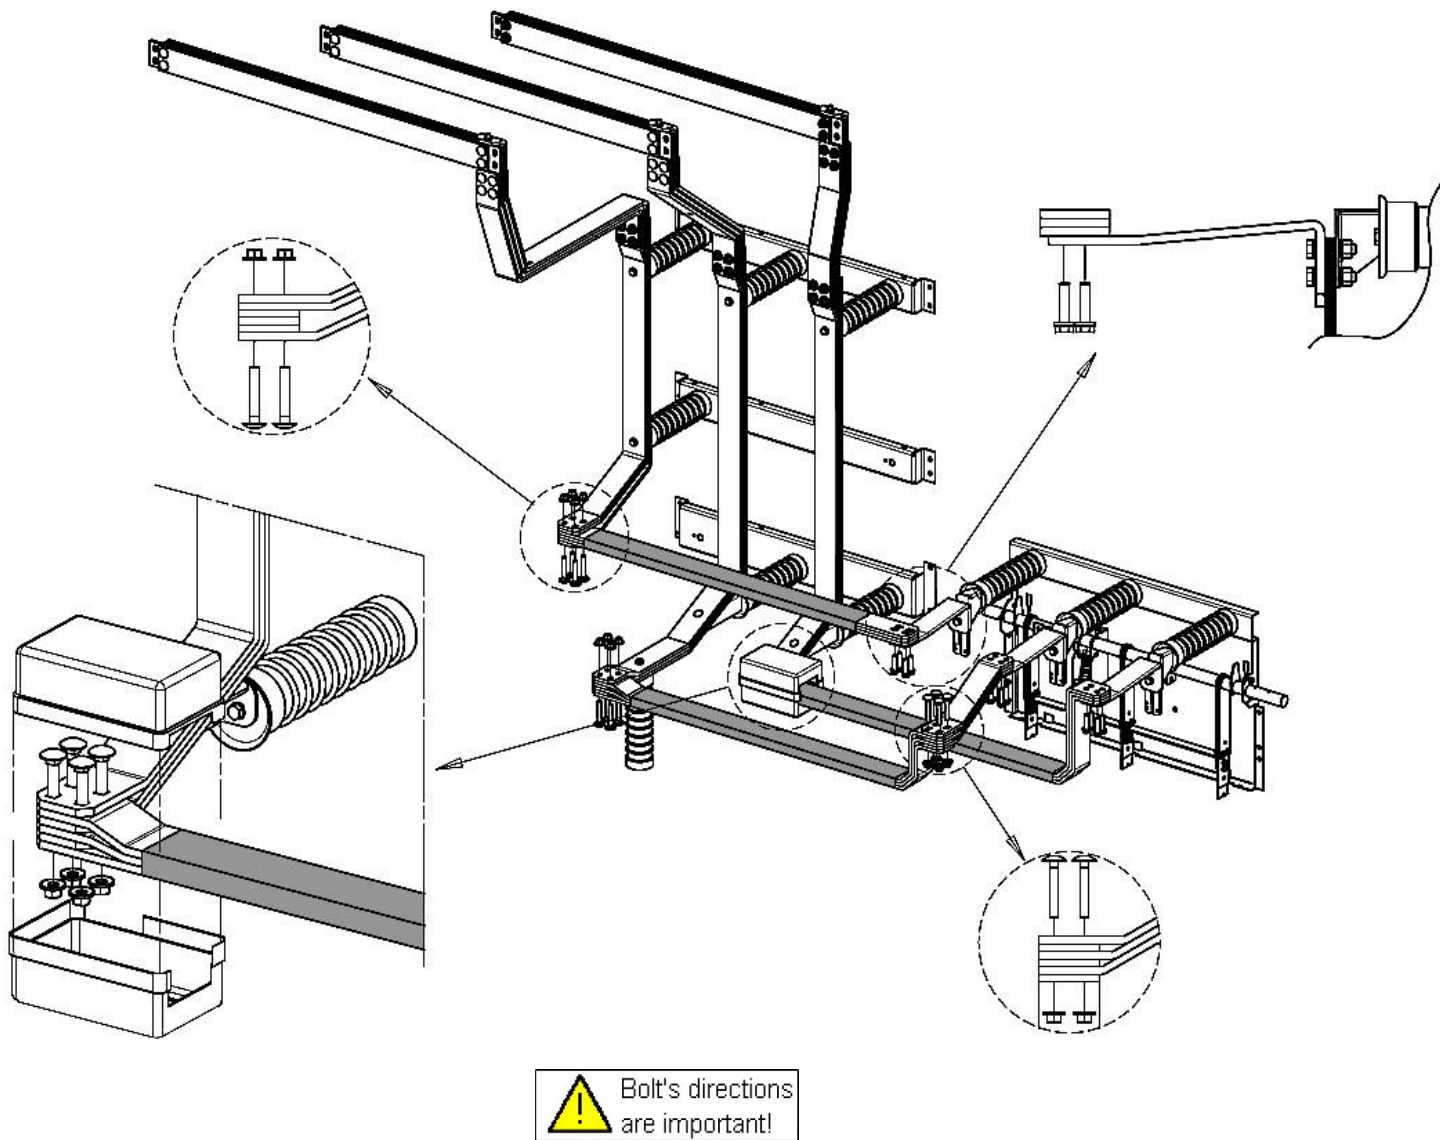

Fig33. 2500A – 3150A Assembly of Coupling bars
for Diagram2 in fig33.on page44
- ⇒ Please ensure that the bolt directions are applied correctly as mentioned at fig29 – fig33. It is important to provide the sufficient clearances between phases and earthed parts.
For rating 2500A – 3150A, please see the other details in fig32 on page43. For other ratings (800A, 1250A, 2000A), the sectionalizing and busriser panels will be reversed on fig29 – 32 drawings as done in fig33.